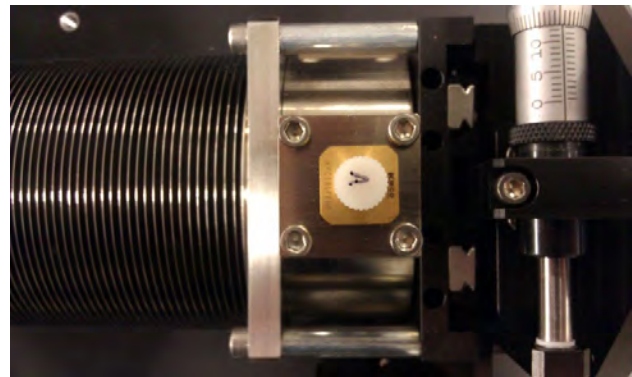

FIGURE 5-17 *Left: Rotate the feedthrough assembly into position and retighten the connection; Right: The off-centered position on the cable feedthrough assembly*
5. Rotate the feedthrough assembly into position and retighten the connection. The cable does not pass through the center of the feedthrough assembly (FIGURE 5-17). Rotating this assembly changes the position of the cable end that attaches to the probe.